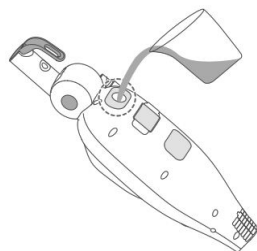

Fig. 8
6. Keeping the body of the steam cleaner tilted, use the water jug to fill the reservoir with water (fig. 8). If you live in a hard water area it is advisable to use distilled or softened water. Do not exceed the MAX lined marked on the front of the reservoir. **Never add** any cleaning or perfuming liquids to the water reservoir. Refit the stopper.